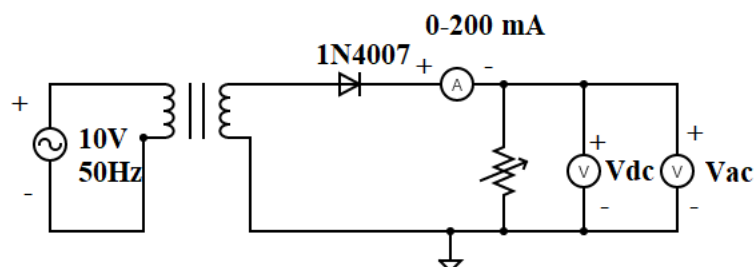

Figure. 3 Circuit Diagram for Half Wave Rectifier without Filter
1. Design a half-wave rectifier circuit and analyze its output as shown in Figure. 3
2. Analyze the rectifier output using a capacitor in shunt as a filter as shown in Figure. 3